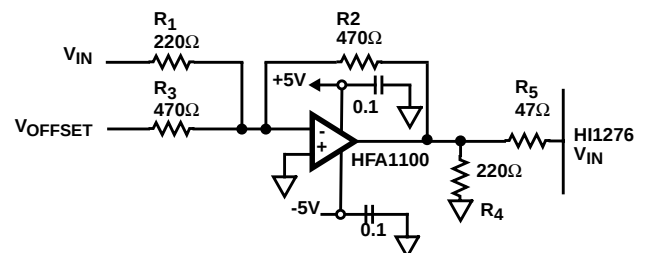

FIGURE 3. INVERTING BUFFER
14. The buffer used on the evaluation board will give the best available performance. However, it is an expensive part and requires ± 15 V supplies. The circuit in Figure 3 is a much lower cost solution. It will have a bandwidth of about 250MHz with a slightly degraded SNR performance at higher input frequencies. It will provide a gain of approximately -2 and V_{OFFSET} can be driven from the same offset circuit used on the evaluation board.